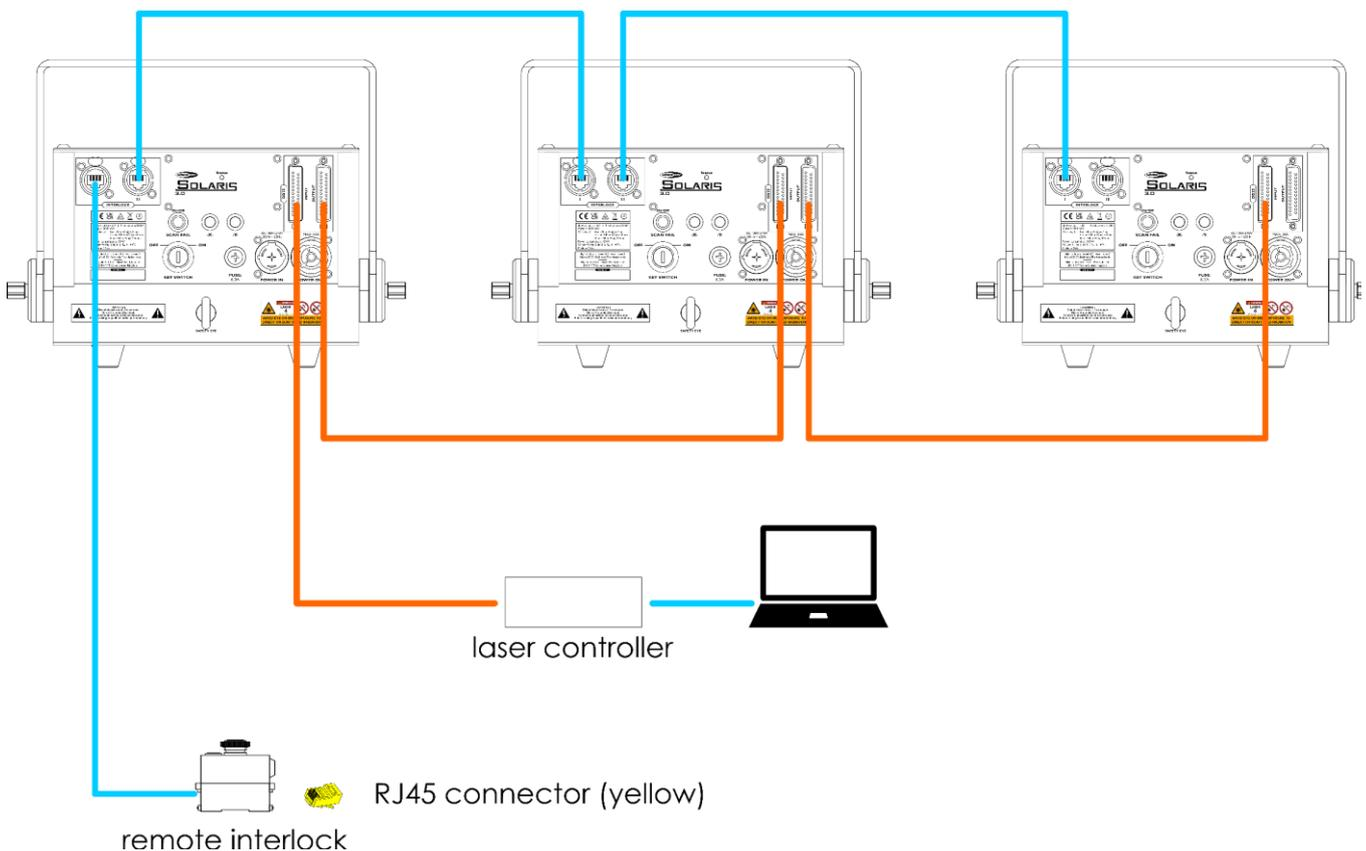

Fig. 15
Fig. 15 shows a typical setup with multiple devices. Follow the steps below to connect the device to a laser controller, to the remote interlock, and to other devices:
- 01) Connect the laser controller to the **ILDA-compatible DB-25 connector INPUT (15)** of the device with an ILDA-compatible DB-25 cable.
- 02) Connect the **ILDA-compatible DB-25 connector OUTPUT (16)** of the first device to the **ILDA-compatible DB-25 connector INPUT (15)** of the second device in the setup with an ILDA-compatible DB-25 cable.
- 03) Repeat step 2 to connect all devices in a daisy-chain as shown in Fig. 15.
- 04) Connect the **RJ45 connector (25)** of the remote interlock, supplied with the device, to the **interlock RJ45 connector I (09)** of the device with a CAT-5/CAT-5E/CAT-6 cable.
- 05) Connect the **interlock RJ45 connector II (10)** of the first device to the **interlock RJ45 connector I (09)** of the second device in the setup with a CAT-5/CAT-5E/CAT-6 cable.
- 06) Repeat step 5 to connect all devices as shown in Fig. 15.
- 07) Insert the RJ45 connector (yellow), supplied with the device, into the **RJ45 connector (24)** of the remote interlock.